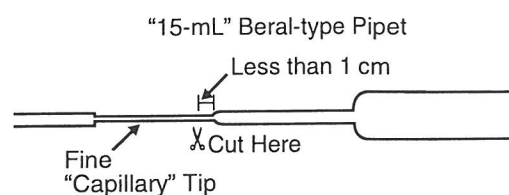

Figure 1.
- Obtain three 15-mL jumbo Beral-type pipets. With pliers, pull the thin stems of each so that a very fine “capillary” tip is formed where the stem has been pulled (Figure 1).
- Cut the pipet as shown in Figure 1 so that the capillary tip is less than 1-cm long.